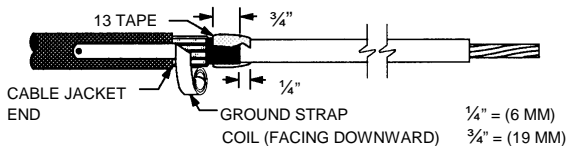

Figure 2
7. Wrap 2 highly stretched half-lapped layers of Scotch™ 13 Semi-Conducting Tape over end of cable semi-con. Start and end taping 3/4" (19 mm) onto cable semi-con, leaving a smooth, even leading edge 1/4" (6 mm) onto cable insulation (**Figure 2**).
2. Lay the ground strap along cable with extended coil facing downward (away from you) (**Figure 2**). **NOTE: Coil should be in contact with shield wires and 24 Tape, close to the cable jacket end.**